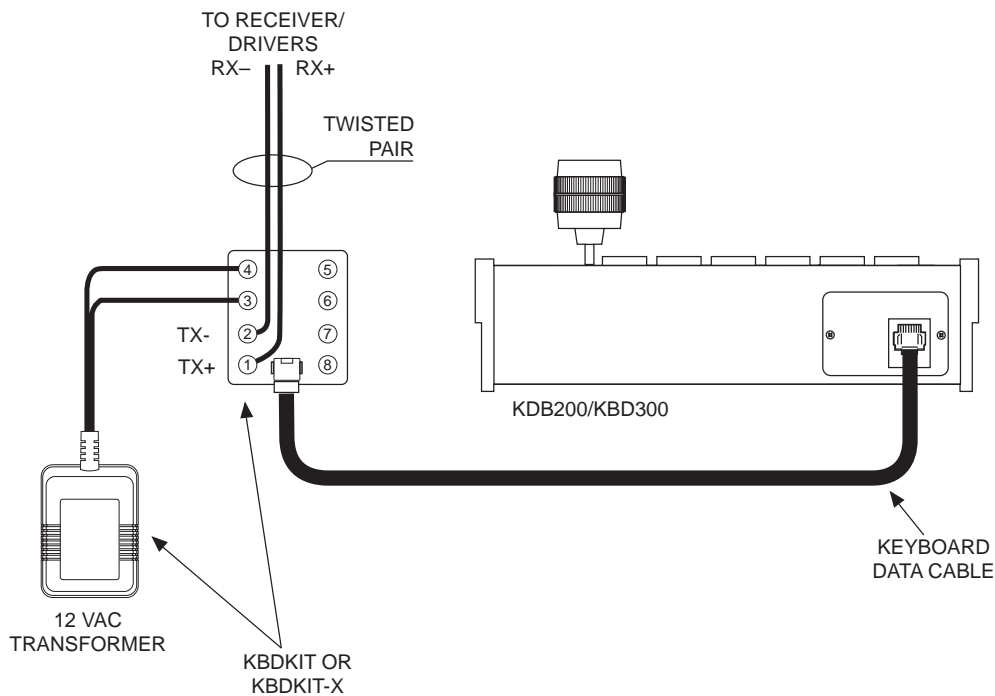

Figure 4. Wiring Diagram for Direct Mode Operation
3. Remove the cover from the wall block. Wire the connections between the wall block and the receiver/drivers according to Figure 4. Up to 16 receiver/drivers can be controlled from the keyboard. Receiver/drivers should be wired in a daisy-chain configuration for best results.